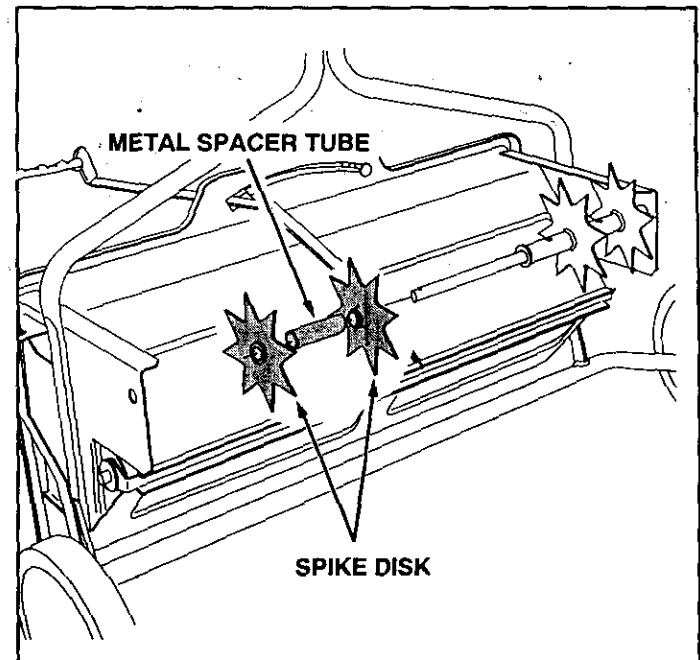

FIGURE 15
- Place two spike disks, separated by a metal spacer tube, onto the shaft. Fit the metal spacer tube onto the ends of the flanged bearings in the disks. See figure 15.